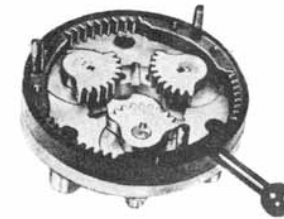

Fig. 2
- Separate Parts to be assembled into groups (fig. 1). Apply ample grease to Ball Bearings to avoid drop out when putting into the Gear Ring (fig. 2). The gears on the Gear Sector then point to the centre.